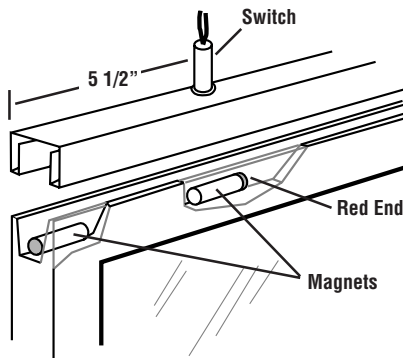

Figure 1. Recessed Installation
- INSTALLATION** Select a wide gap recessed switch and an additional 3/8" (0.95 cm) diameter by 1-1/2" (3.81 cm) long magnet. Remove window from frame (see Figure 1, page 93). Slightly over-drill vertical hole for switch in top of frame, about 5-1/2" (14 cm) from edge of frame. Coat switch with RTV mounting compound and insert in hole. Mount magnets on inside of upper window channel toward top of channel with RTV mounting compound (Figure 1). Locate one magnet at edge of channel, red end toward edge of window. Locate other magnet with non-red end under switch — red end pointing away from other magnet. After RTV sets (about 15 minutes), reinsert window in frame. Attach ohmmeter to leads and test for proper switch operation. If switch “drops out” anywhere within ventilation range, move inside magnet (and switch) closer to outside edge of door or window. Connect to alarm loop. Instruct customer on proper use of ventilation feature. If necessary, add a window stop or mark maximum permissible opening to prevent false alarms.